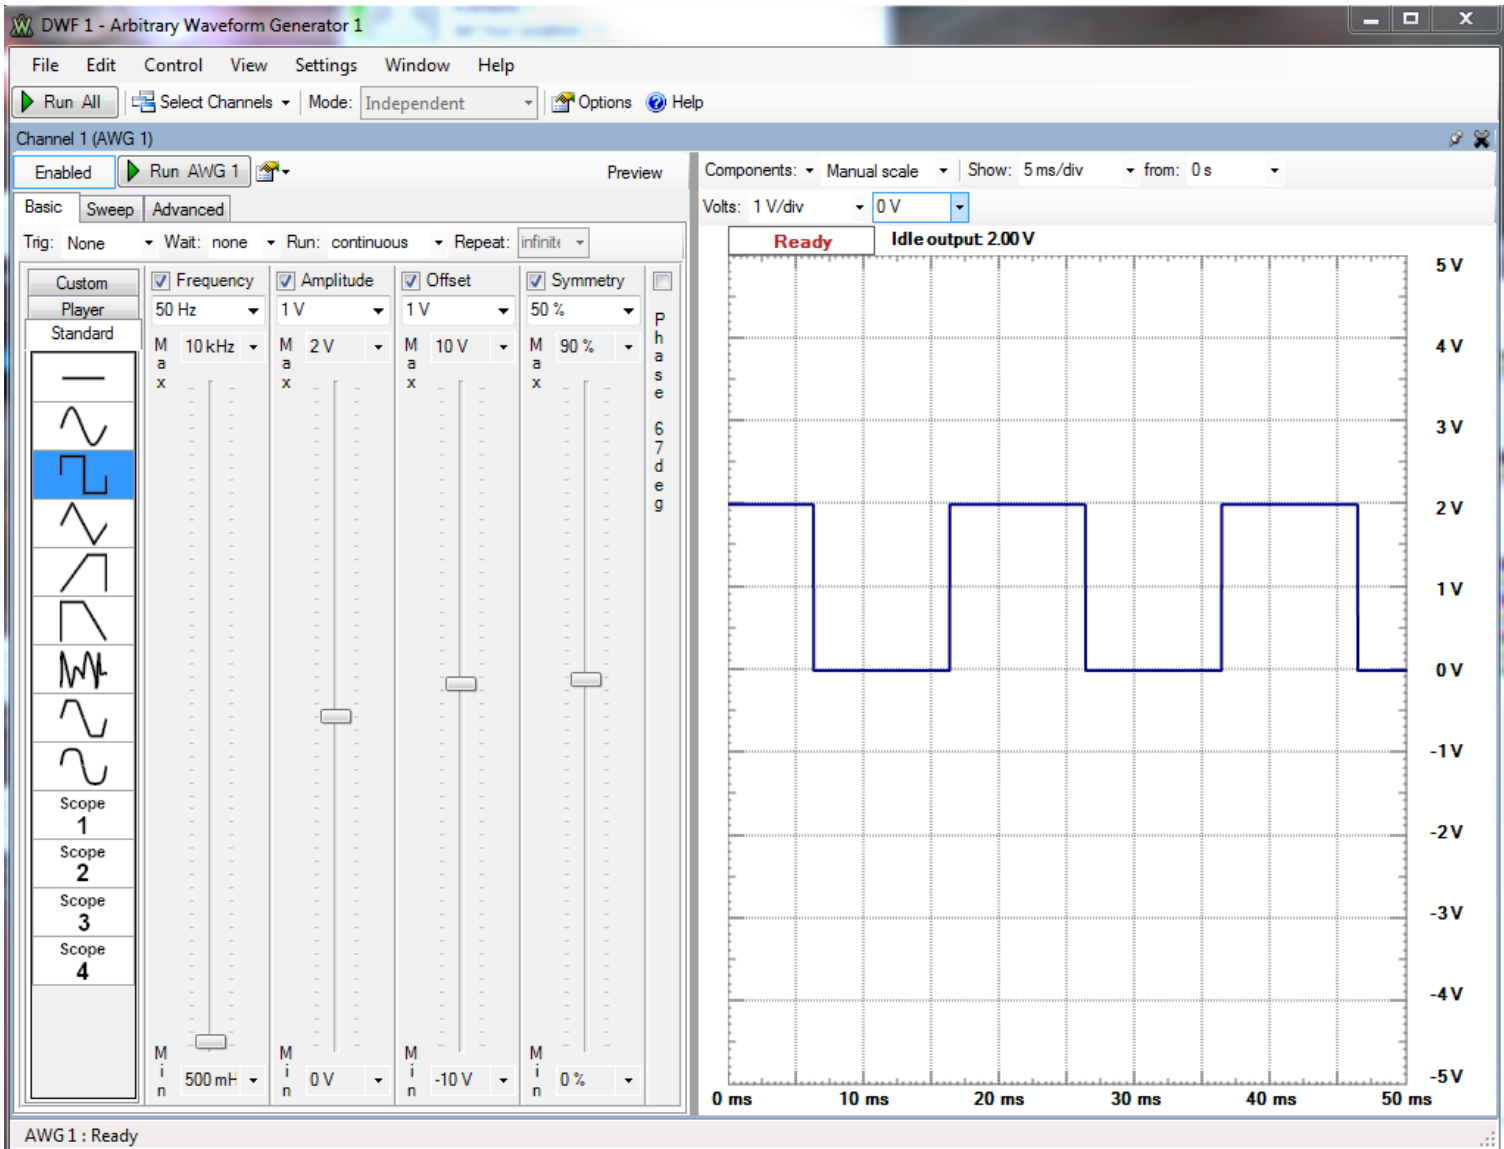

Figure 3. Arbitrary Waveform Generator 1.
4) Start the **Function Generator**. Set channel 1 to a 50 Hz square wave, with a 1 V DC offset and peak to peak value of 2.0 volts (the amplitude of the waveform will be 1 Volt). The symmetry should be set to 50%. If your range of frequencies or volts is not in the menu, select the upper or lower value that you want to change, Set channel 2 to a zero output (we will not be using it). The scope channel should look something like that shown in Figure 3 once you have started the waveform generator. (Note that I have used the Settings-> Options to set my waveform to blue.)